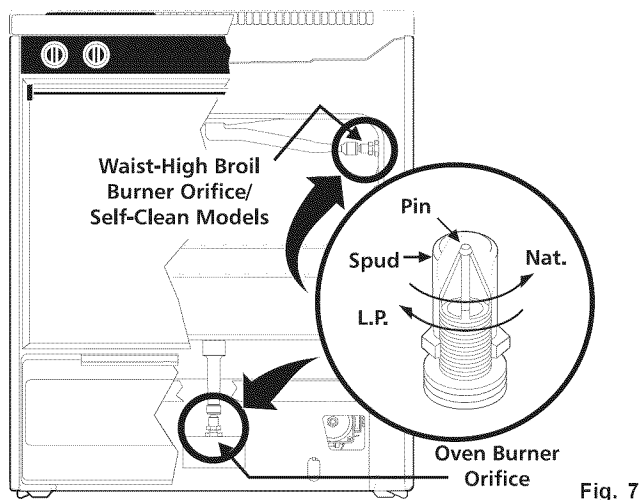

Fig. 7
- Locate the oven burner spud (See Fig. 7).
- Locate the broiler burner spud and turn down until snug against the LP/Propane metering pin (approximately 1 to 1-1/2 turns). **Do not over tighten** (See Fig.7).